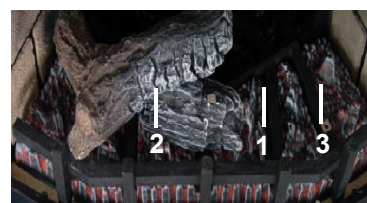

FIG 8
3. Insert pin in Log 3 into ember bed and rest left side on Log1 (See FIG 8).